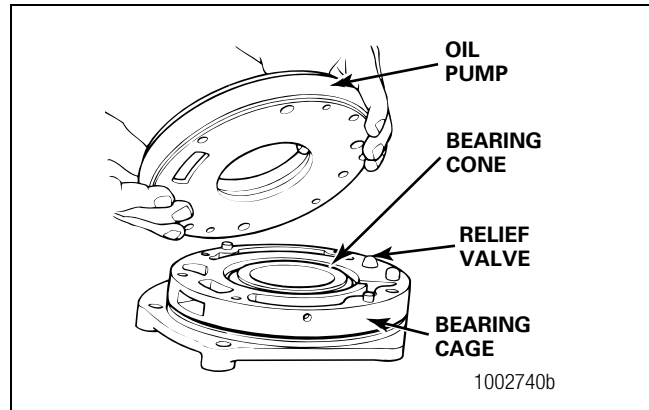

Figure 3.36
- D. Remove the capscrews that fasten the oil pump to the input bearing cage. Separate the oil pump from the cage. Figure 3.36.